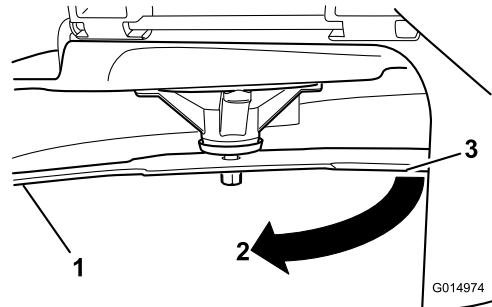

Figure 62
3. Measured distance between blade and the surface (A)
4. Rotate the same blade 180 degrees so that the opposing cutting edge is now in the same position (Figure 62).